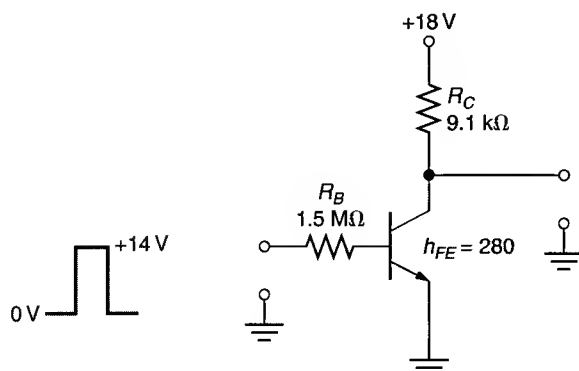

FIGURE 19.46
1. Determine the minimum high voltage required to saturate the transistor in Figure 19.46.
2. A switch like the one in Figure 19.46 has the following values: $V_{CC} = +12\text{ V}$, $h_{FE} = 150$, $R_C = 1.1\text{ k}\Omega$, and $R_B = 47\text{ k}\Omega$. Determine the minimum high input voltage required to saturate the transistor.